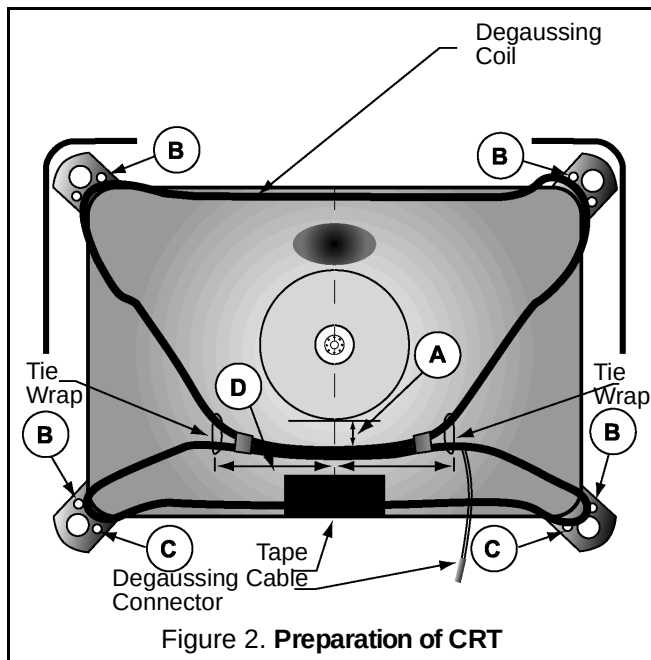

Figure 2. Preparation of CRT
To remove and re-mount the degaussing coil: The degaussing coil is held in place by clampers fastened to the CRT corner ears, indicated as location "B" in Fig. 2. These clampers must be installed onto the replacement CRT prior to mounting the degaussing coil.
7. Mount the dag ground braid on the replacement CRT. Position the degaussing coil with new ties. Dress coil and shape it to the CRT contour, and use tape to secure it, as indicated in Fig. 2. Verify that degaussing coil does not come in contact with the dag ground or springs, or blocking holes "C" in Fig. 2. Maintain a minimum of 50mm between the degaussing coil and the neck area, "A" in Fig. 2. Apply the tie wrap a distance of 110mm $\pm$ 10mm, "D" (2 places) in Fig. 2.